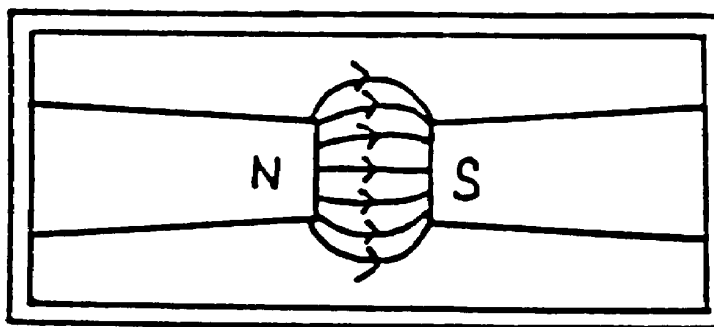

Figure 2: The magnetic field lines between the poles of a strong magnet.
**Earth's magnetic field.** By experimenting with the compass, find the point along the meter stick at which  $B$  due to both wires is equal to the earth's magnetic field,  $B_{\text{earth}}$ . Can you figure out a way of doing this? Measure the distances  $r_1$  and  $r_2$  from the wires to the point where the fields are equal. Use Equation 1 to calculate the magnetic field due to each wire. Being careful to account for the direction of these fields, superimpose the wire's fields (add them) to obtain  $B_{\text{earth}}$ . The SI unit for magnetic field is the tesla (T). Compare your result with the known value for  $B_{\text{earth}}$  of about  $3 \times 10^{-5}$  T.
**Permanent magnet.** Examine the force which a permanent magnet produces on the current. Remove the 'keeper' from the magnet (keep any compasses well away) and hold one of the wires from the power supply between the poles of the magnet. Turn on the power supply and feel the force on the wire. From the direction of the force, the direction of the current, and remembering that field lines come out of the north pole and go into the south pole of a magnet (as in Figure 2) determine which pole of the magnet (labeled A and B) is the north pole. Make a sketch of the situation and include it in your report.